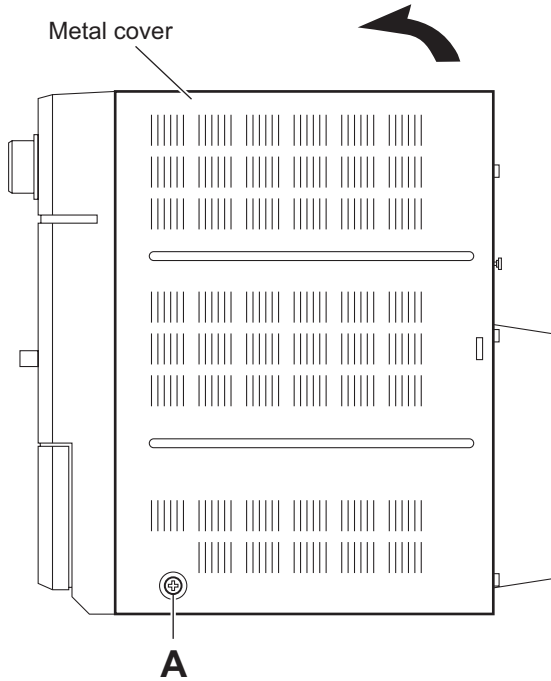

Fig.1
(See Figs.1 to 3)
- (1) From the both sides of the main body, remove the two screws **A** attaching the metal cover. (See Figs.1 and 2.)
- (3) Remove the metal cover from the main body while lifting the rear section of the metal cover in the direction of the arrow. (See Figs.1 and 2.)